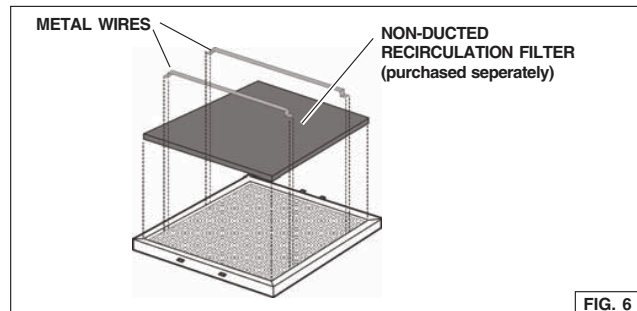

FIG. 6
Install the Non-ducted recirculation filters over the grease filters and secure them with the metal wires supplied with the Non-ducted recirculation Filters (Fig. 6).
2. Remove the metal wires (Fig. 6) and replace the Non-ducted recirculation Filters.